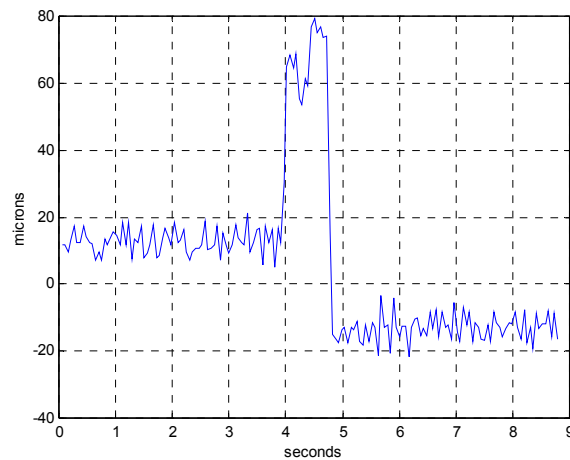

Figure 13, Z-axis Not Optimally Tuned Screen
- Refer to **Figure 13**. Z-axis without being optimally tuned (default gains). Reported retract lag was 79 microns and threading lag of 12 microns.